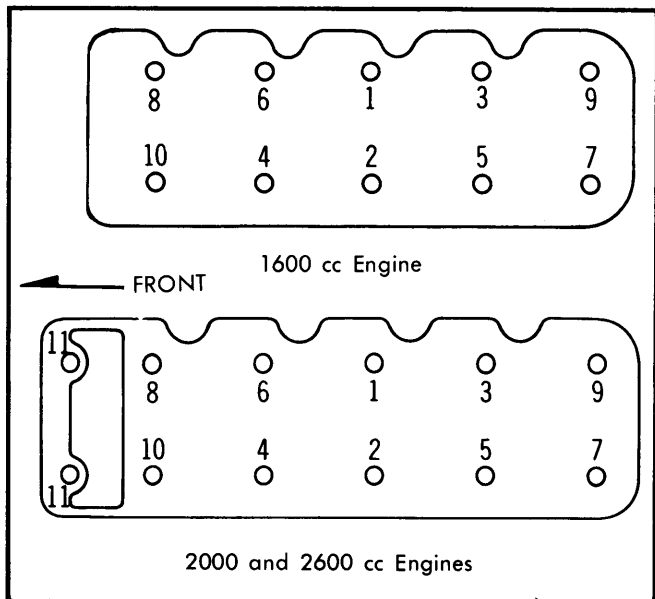

Fig. 2 Cylinder Head Bolt Tightening Sequence (Remove in Reverse Order)
4) Remove camshaft sprocket from camshaft, and on 1600 cc engine, remove timing belt upper inner cover. Remove cylinder head bolts in two or three stages according to removal sequence shown in Fig. 2 (loosen high numbers first). Lift off head using caution to avoid twisting sprocket and chain (belt).
2) Tighten cylinder head bolts to initial torque (25 ft. lbs. for 1600 cc, 35 ft. lbs. for others) according to sequence shown in Fig. 2. Repeat the procedure, retightening all cylinder head bolts to specified torque.